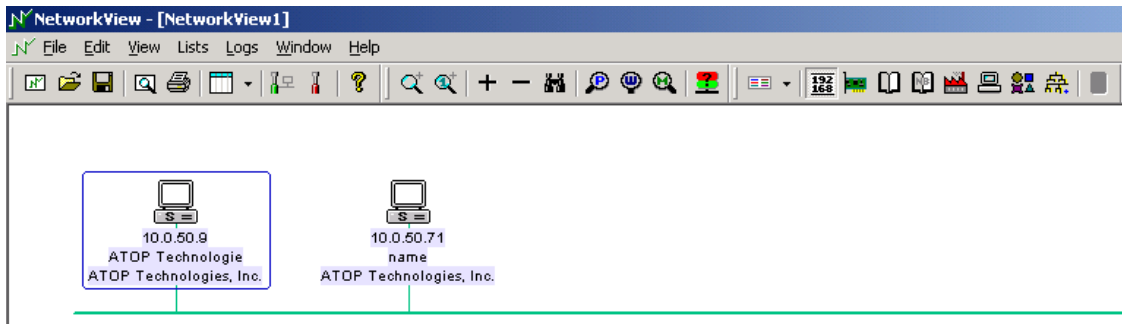

Fig. 42. NetworkView display the devices found
- 3 After the search is complete, NetworkView will display the devices found on the main window, as shown below (Fig. 42)